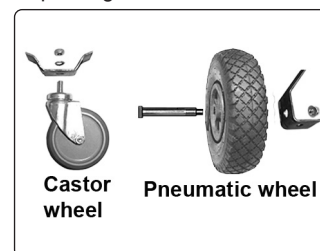

fig.1
4.1.1. Assemble the wheels and swivel castor using the nuts, bolts and washers supplied (fig 1).
A: Replace air filter (figs 1 & 4).